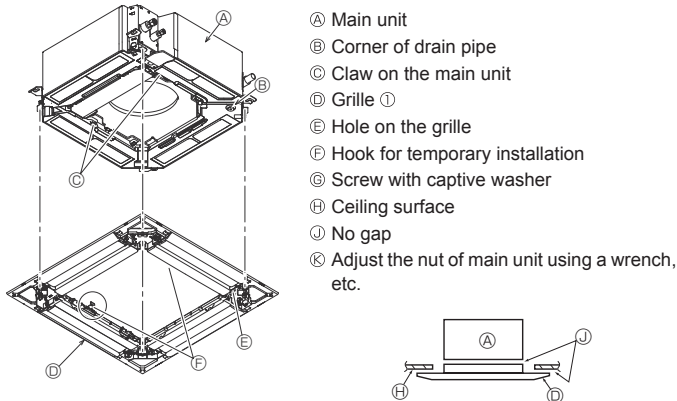

Fig. 6
4.2. Temporary installation of the grille (Fig. 6)
- By tightening the pre-installed screws, fix the grille onto the main unit. (Fig. 6)
- After tightening the screw, confirm that the two grille hooks (Fig. 6) are latched onto the hooks on the main unit.